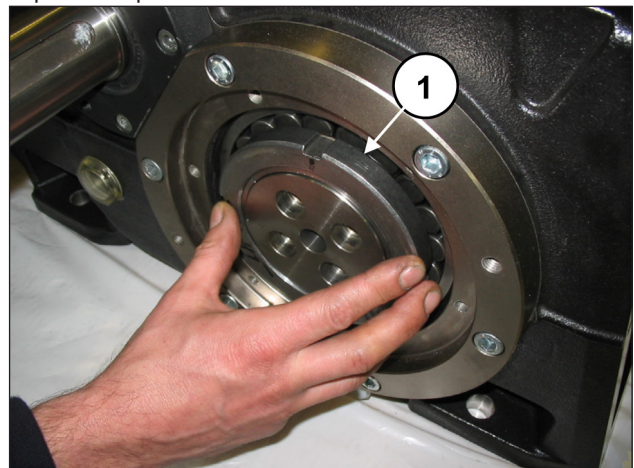
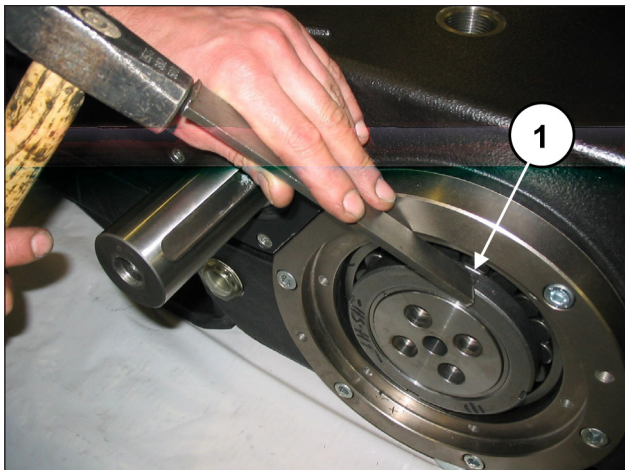

Fig. 15
Fig. 16
On one side, screw a ring nut, type SKF KM20, onto the pressure bush (pos. ①, Fig. 15), and then unblock the bush using an extractor hammer (pos. ①, Fig. 16), but do not remove it.